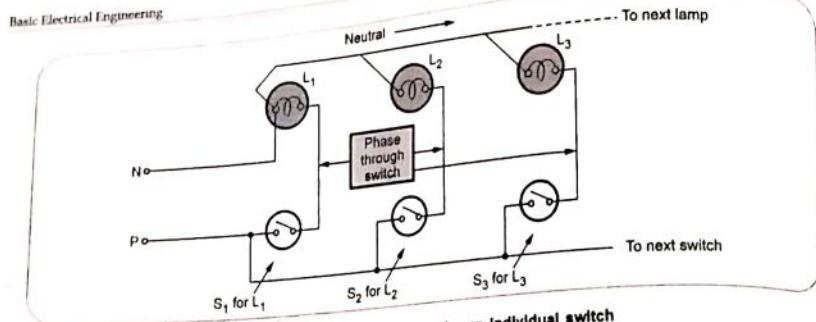

Fig. 6.4.2 Control of each lamp by an individual switch
- The number of lamps can be connected in parallel and can be controlled by a separate individual switch by this method, as shown in the Fig. 6.4.2.